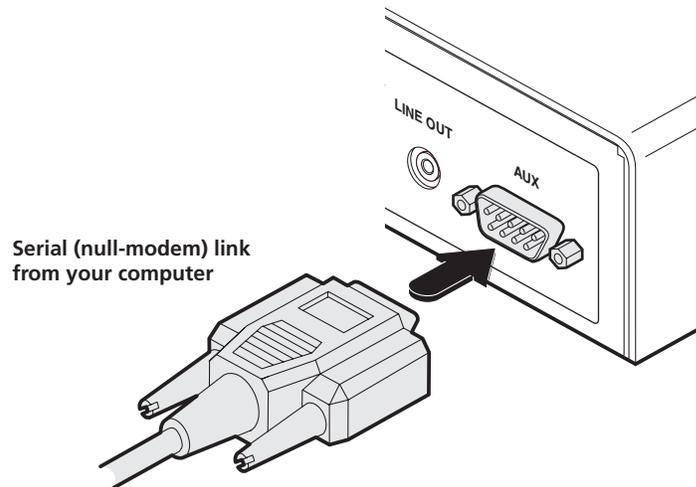

Figure 3-13. Connecting the serial link cable to local transmitter unit socket.
- 2 Connect a suitable serial 'null-modem' cable (see Appendix D for pin-out) between a vacant serial port on your computer and the AUX port on the right hand side of the ServSwitch Agility rear panel. See Figure 3-13.